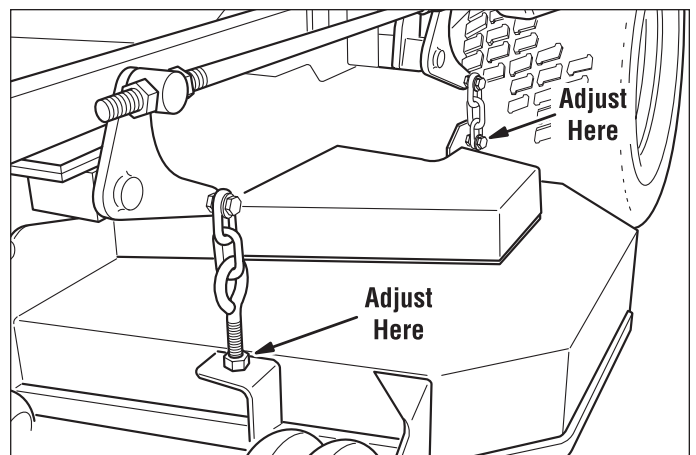

Figure 36. Hanger Chain Adjustment
7. Adjust the front eyebolts until the chains are tight and the deck is still resting on the 2 x 4's. Tighten jam nuts. See Figure 36.
8. Loosen the nuts and allow the rear of the deck to rest on the 2 x 4's and 1/4" spacers. Slide the chains in the slots until the chains are tight and tighten the nuts. See Figure 36.